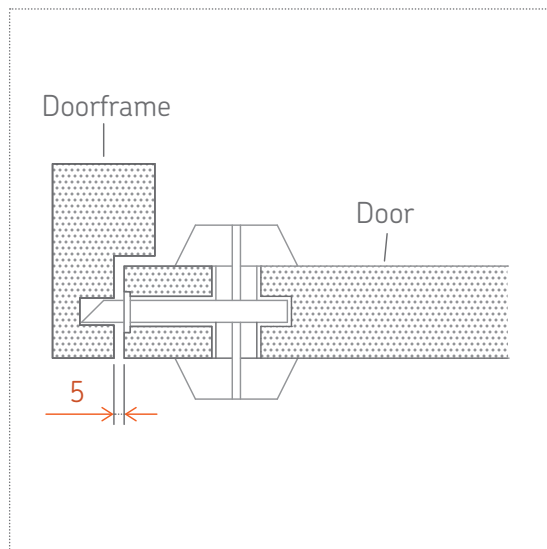

Figure 4: Tolerance between door and frame
- **The tolerance between the door and the frame** is defined as the space between the door and frame at the lock (Figure 4).